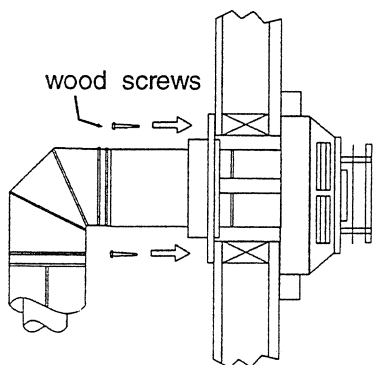

Fig. 5
- 7) Slide the decorative wall thimble up the wall surface and attach with screws provided. Apply decorative brass or chrome trim if desired. Fig. 5.